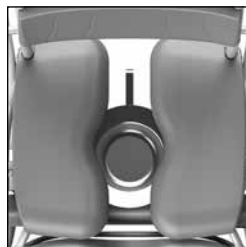
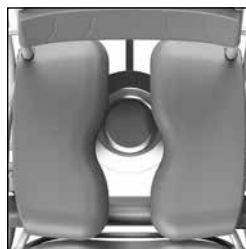

Figure 9 Stainless steel bedpan, front.
Figure 10 Stainless steel bedpan, back.
- If you are using a stainless steel bedpan or bucket, the bedpan can be placed in 2 positions under the seat. At the front of the seat (See figure 9) or at the back of the seat (See figure 10).